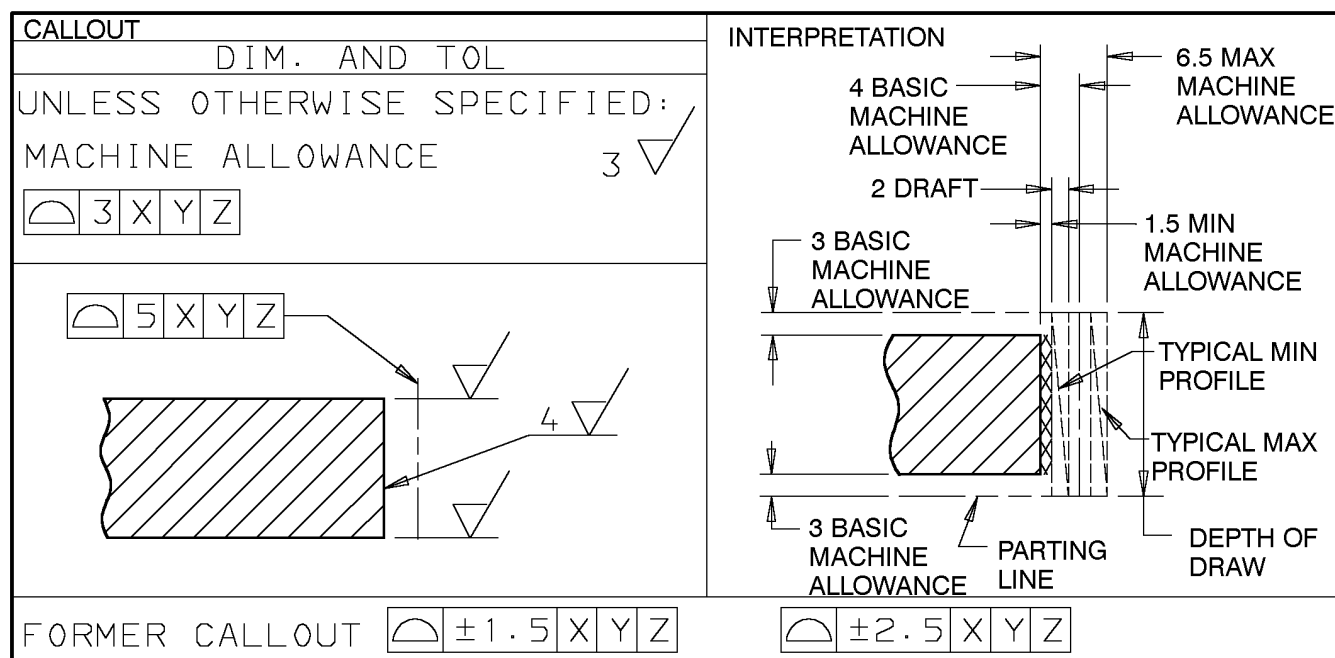

Figure 13 - Machine Allowance - Drafted Surface - Edge Parted - Casting
**10.3.5** Figure 13 illustrates machine allowance where the drafted surface is parted on an edge. This type of parting is commonly used for castings.